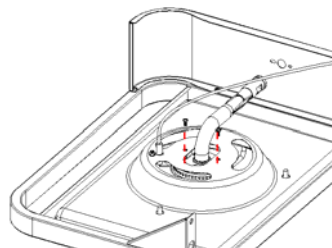

Fig. 15B
Unscrew (2) preinstalled bolts from the Side Burner Tube as shown as Fig. 15B.